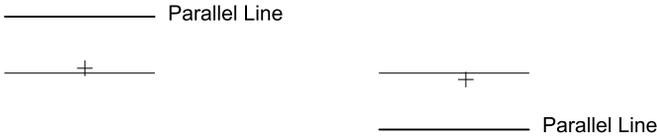

Figure 9-7: The parallel is created on the same side of the line on which the mouse cursor is positioned.
3. Move the mouse cursor close to an existing line in your drawing. QCAD shows a preview of the parallel line before you click the mouse button. Note that there are two possible parallels to any line: one on each side of the line. If you move the mouse cursor somewhat to one side of an existing line, a parallel is shown at that side as shown in Figure 9-7.